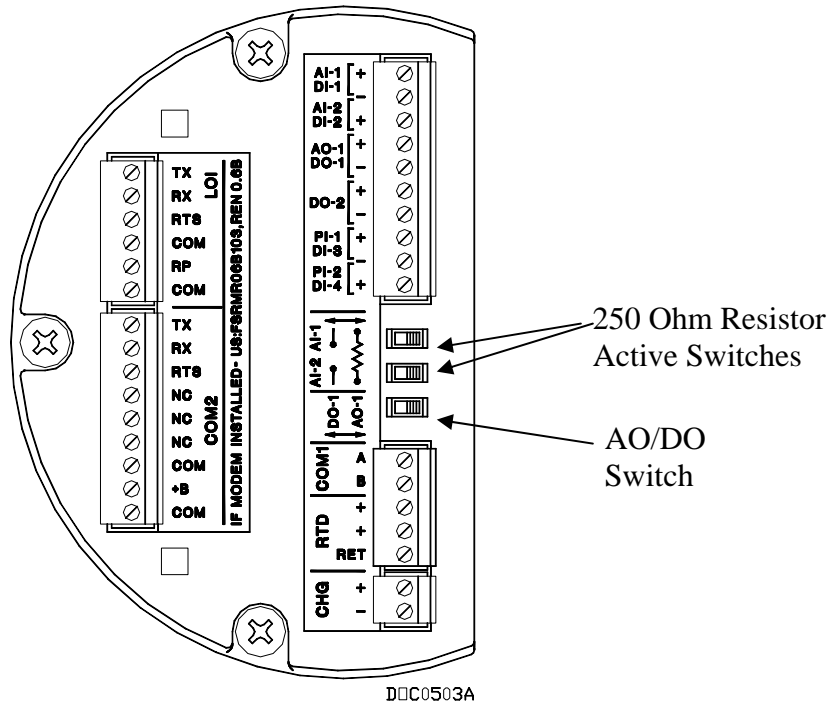

Figure 5-1. Termination Board with Optional I/O
To select the type of output for the **Analog Output/Discrete Output #1** channel, flip the AO/DO switch on the termination board to the desired position. Refer to Figure 5-1 for the switch location. Then select the desired output type on the Configure > I/O > Setup screen in ROCLINK 800 configuration software. Analog Output is the default position for this channel.
- ❖ **NOTE:** When an Analog Input/Discrete Input channel is selected to Analog Input, be sure the 250 Ohm Resistor Active switch is set to the resistor active position. Refer to Figure 5-1 for the switch location.
The terminals for connecting the Analog Input wiring are shown in Figure 5-1.
Current inputs of 4-20 mA can be used when the switch for a 250-ohm resistor is in the resistor installed position. This switch is located below the terminations. Refer to Figure 5-1.
The terminals for connecting the DI wiring are shown in Figure 5-1.